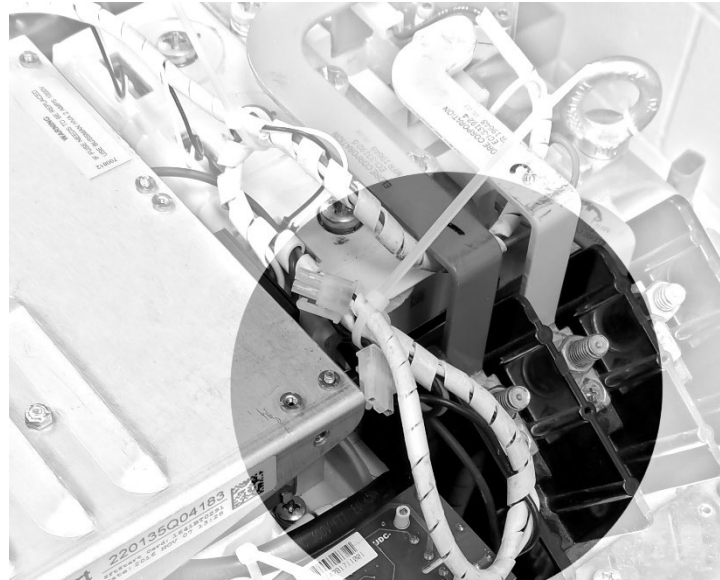

Figure 16 – Trigger Signal Cable Tie
11. Install a cable tie to secure both ends of the 15VAC trigger wire. Refer to Figure 16 (Trigger Signal Cable Tie).